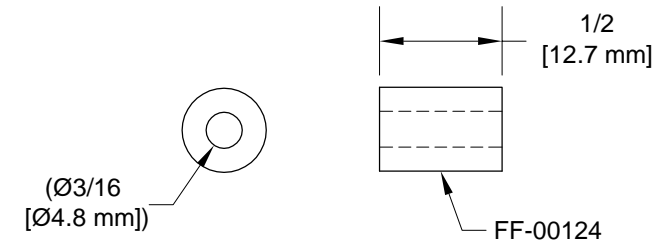

FIGURE 3: CUT VIBRATION DAMPER HOSE
Step 3: Fabricate a FF-00124 Vibration Damper Hose from EA HOSE H173 rubber hose per Figure 3 dimensions.